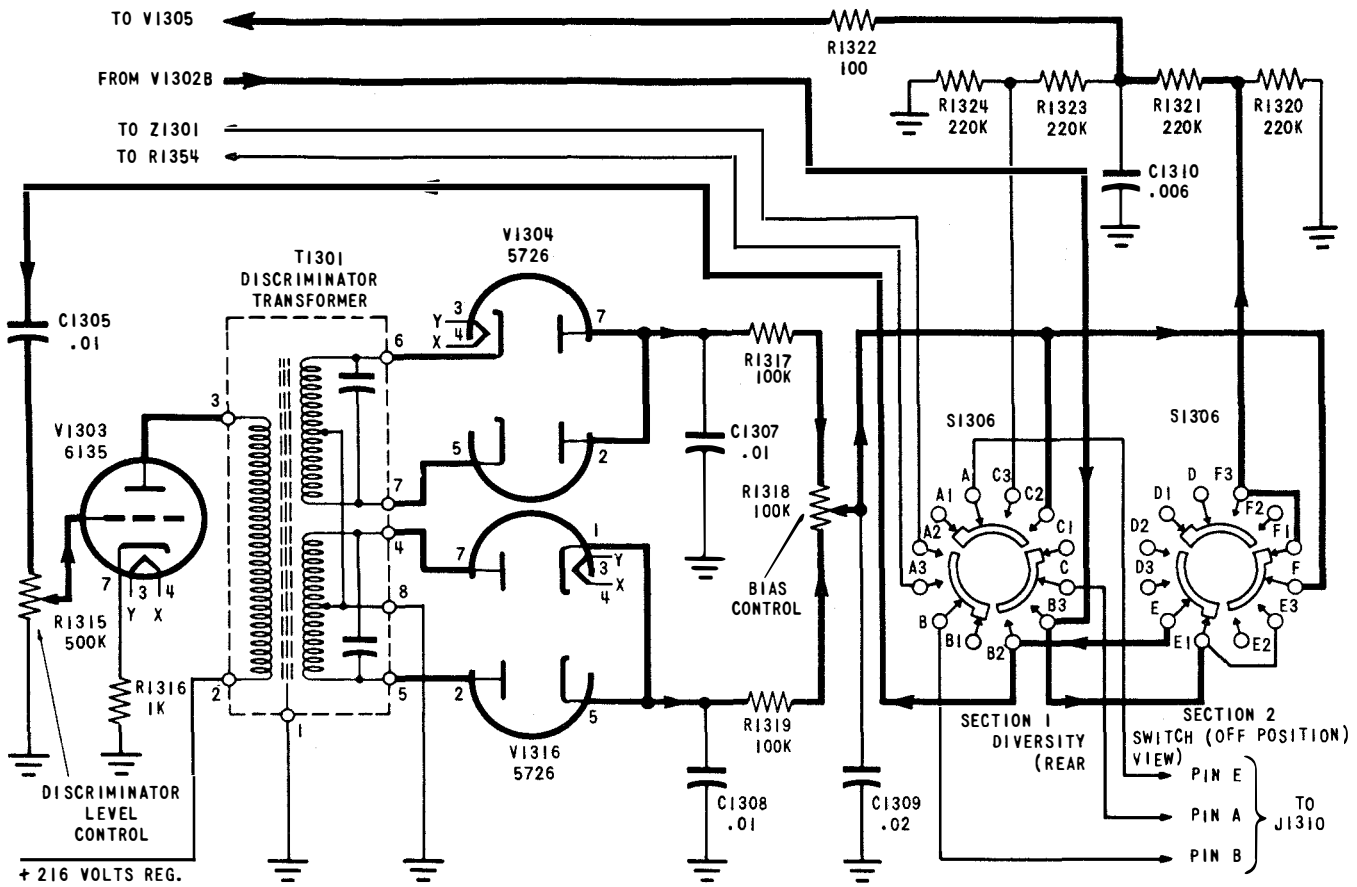

Figure 2-11. Schematic Diagram of Discriminator and Diversity Combining Circuits
d. DISCRIMINATOR AND DIVERSITY COMBINING CIRCUITS. - (See figure 2-11.) With the DIVERSITY switch S1306 in the OFF position the output of the limiting amplifier is connected through S1306 to the 0.01 mf coupling capacitor C1305 and the 500,000 ohm potentiometer R1315 (DISCRIMINATOR LEVEL CONTROL). The potentiometer R1315 controls the magnitude of the signal applied to the grid of the 6135 type tube V1303, and the 1000 ohm resistor R1316 provides self-bias. The discriminator transformer T1301 has one primary which serves as a plate load for V1303 and two secondaries, one tuned for the MARK carrier frequency and one tuned for the SPACE carrier frequency. Voltage from the MARK tuned winding is applied to the cathode of the 5726 type tube V1304, and the rectified negative output is filtered by the 0.01 capacitor C1307. Voltage from the SPACE tuned winding of T1301 is rectified and filtered by V1316 and C1308 respectively, the resultant DC output being positive. The output of V1304 and V1316 are combined by means of the 100,000 ohm resistors R1317 and R1319 and the 100,000 ohm BIAS CONTROL potentiometer R1318 which permits the telegraph bias to be set by varying the operating point. Additional filtering is provided by the 0.02 mf capacitor C1309. With the DIVERSITY switch S1306 in the OFF position, the telegraph signal is applied